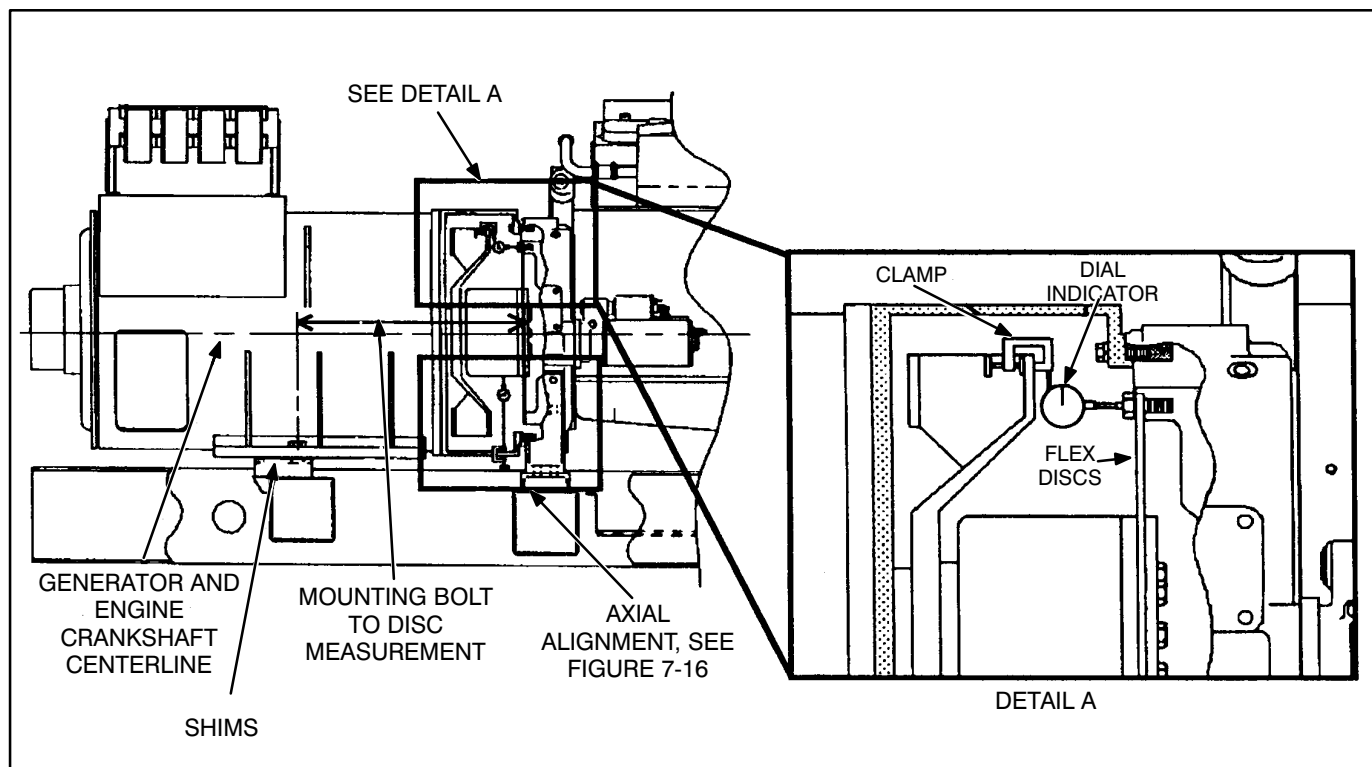

FIGURE 7-14. ANGULAR ALIGNMENT MEASUREMENT
Fasten a dial indicator to either the generator shaft or the cooling fan with the sensing point resting on the capscrew head or the flat surface of the drive disc at the bolt circle diameter, see Figure 7-14. Bar the engine over in a clockwise rotation as viewed from engine flywheel. Do not allow it to roll back on compression at the end of the travel of each reading. It is unnecessary to zero the indicator since the total indicator reading (T.I.R.) of the deflection measurement to the bolt heads is what is required. T.I.R. will be the sum of the maximum positive and negative dial indicator readings as the engine completes one revolution.
2. Measure the distance from the generator side of the flex discs to the center of the generator mounting bolt, refer to Figure 7-14. (For example; a HC6 Frame's distance is 28.4".)